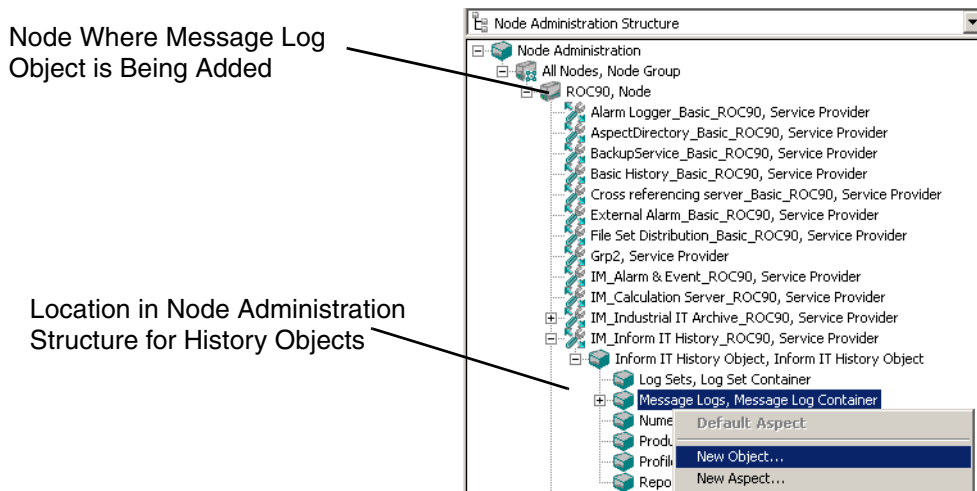

Figure 92. Adding a Message Log in the Node Administration Structure
To add a Message Log object (reference Figure 92):
2. Navigate to and expand the object tree for the node where the message log is to be added (for example ROC90 in Figure 92).